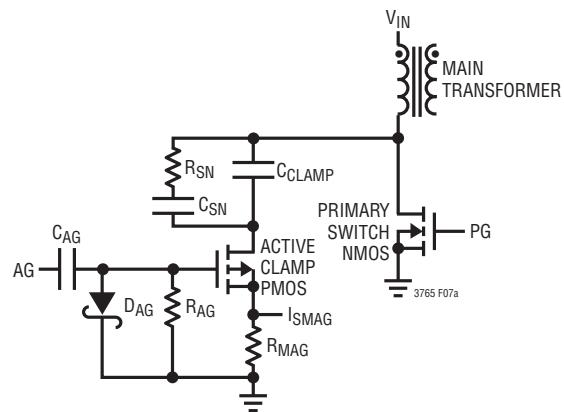

Figure 7a. Traditional AG and PG Driver Configuration
The active clamp gate driver (AG) and the primary switch gate driver (PG) are “in-phase,” with a programmable overlap time set by the DELAY pin. Traditionally in active clamp drivers, the AG driver must be level-shifted as shown in the circuit in Figure 7a to drive the active clamp PMOS gate from approximately  $V_D$  to  $-V_{CC} + V_D$ , where  $V_D$  is the forward voltage drop across the Schottky diode  $D_{AG}$ . A silicon diode can be used instead of a Schottky barrier diode; however, the forward voltage of the diode does subtract from the available gate drive of the active clamp PMOS. This is particularly important at the minimum  $V_{CC}$  UVLO falling threshold.
Unlike the configuration in Figure 7a, the main transformer leakage current spike and magnetizing current return to the  $V_{CC}$  bypass capacitor. The  $V_{CC}$  capacitor should be increased to prevent excessive ripple on the supply and a low impedance plane should be used to route  $V_{CC}$ . The
The LTC3765 and LTC3766 implement a new unique system for monitoring and directly limiting the flux accumulation in the transformer core. During a reset cycle, when the active clamp PMOS is on, the magnetizing current is sensed by a resistor ( $R_{MAG}$ ) connected to the source of the PMOS. The voltage across this resistor is sensed by the  $I_{SMAG}$  pin. Both the traditional and alternative configurations for the active clamp driver, shown previously in Figures 7a
In addition to voltage rating, another design constraint on  $C_{CLAMP}$  occurs because of the resonance between the magnetizing inductance of the main transformer with the clamp capacitor. The magnetizing inductance  $L_{MAG}$  and  $C_{CLAMP}$  form a high-Q resonant system that results in a sinusoidal ripple on the capacitor voltage. **To avoid the problems associated with this resonance, always use an RC snubber in parallel with the clamp capacitor as shown in Figures 7a and 7b.** Choose values for the clamp